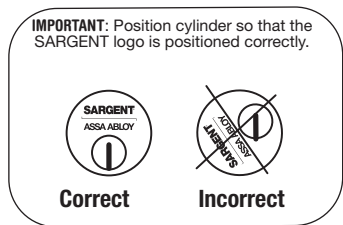

Fig. 10A
- Verify orientation of cylinder so that SARGENT logo is right-side up (Fig. 10A).
- Rotate cylinder until it is nearly flush with the edge of rosette and the SARGENT logo is positioned correctly (Fig. 10A).